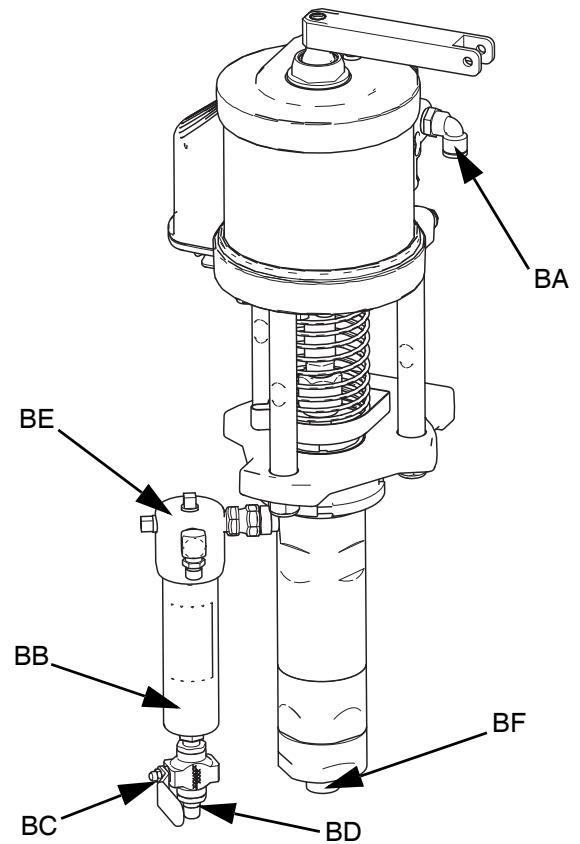
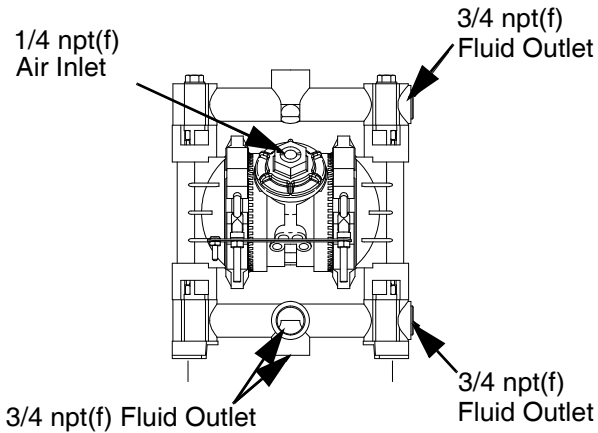

FIG. 3: Air Motor Components
FIG. 5: Diaphragm Pump
1. Verify that the air line from the air outlet 1 (AC) on the air control panel is connected to the air inlet (BA) on the air motor. See **Figure 3** on page 11.
2. Connect the AAC air line from the gun hose bundle to air outlet 3 (AK) on the air control panel. See the G15/G400 Spray Gun manual 3A0149 for the AAC air line identification.
3. Connect the supplied air tubing attached to air outlet 2 (AF) to the solvent pump air inlet. See **Figure 5** on page 13.
4. Verify the air shutoff valve (AP) is closed (handle is vertical); then connect the air supply line to the air inlet (AA) on the air control panel.